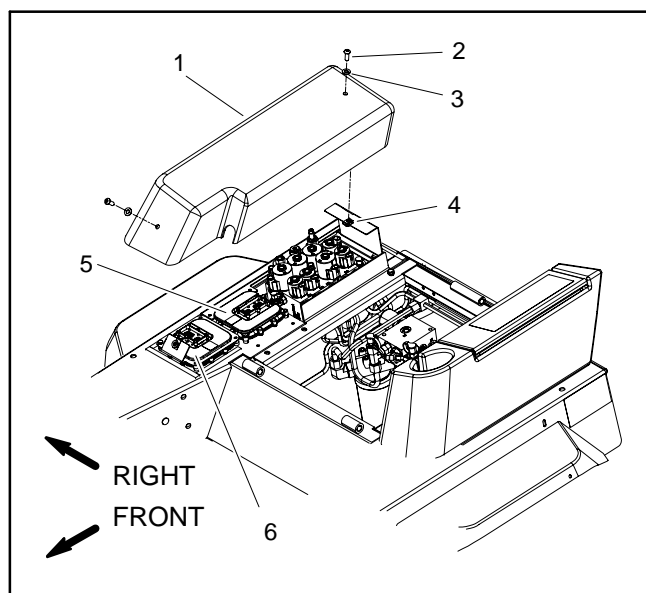

Figure 8
2. Remove the controller cover to allow access to wire harness loopback connector (Fig. 8). Locate wire harness communication port and loopback connector. Carefully unplug loopback connector from harness connector.